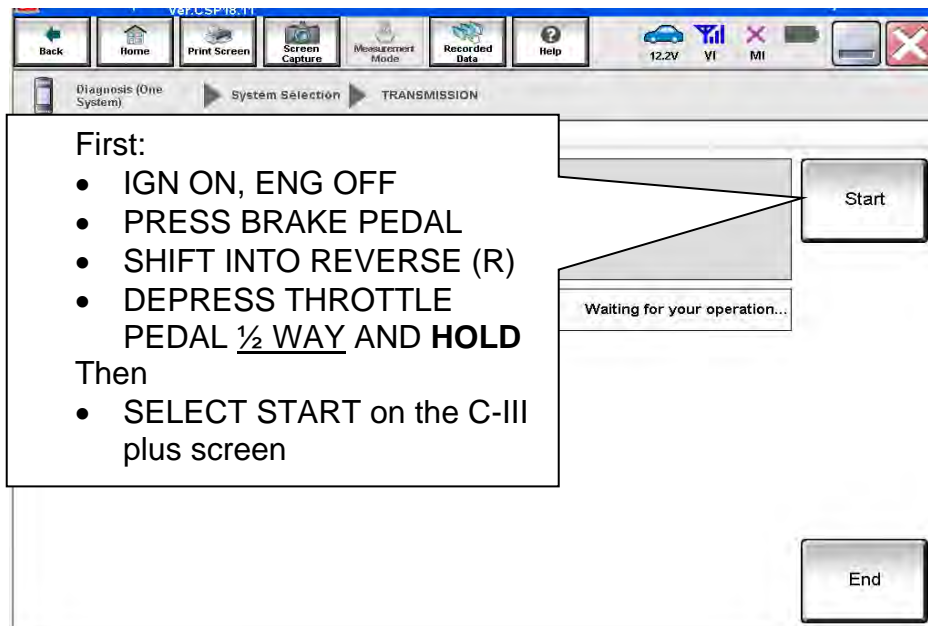

Figure10F
18. Before selecting **Start**, follow the directions in Figure 10F.